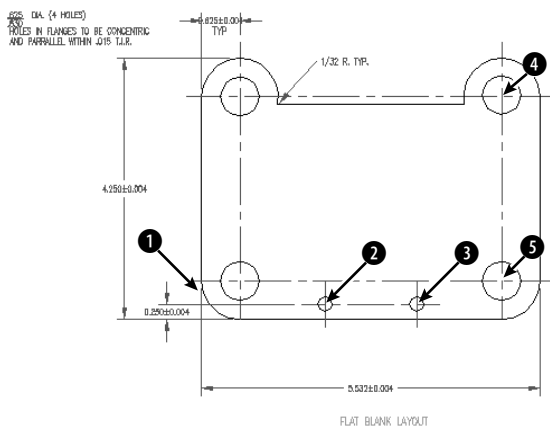

**Figure 15-34:** The tension arm needs some additional dimensions.
4. Choose Linear from the Dimension toolbar. At the Specify first extension line origin or <select object>: prompt, choose the endpoint at ❶ in Figure 15-34. (If necessary, press Tab until you see the endpoint tooltip.) At the Specify second
6. Choose Linear from the Dimension toolbar. At the Specify first extension line origin or <select object>: prompt, choose the intersection at ② in Figure 15-34. At the Specify second extension line origin: prompt, choose the intersection at ③. At the Specify dimension line location or [Mtext/Text/Angle/Horizontal/Vertical/Rotated]: prompt, pick the endpoint object snap at the right side of the previous dimension's dimension line in order to align the two dimensions.
10. Choose Linear from the Dimension toolbar. At the Specify first extension line origin or <select object>: prompt, choose the intersection at ④ in Figure 15-34. At the Specify second extension line origin: prompt, choose the intersection at ⑤. At the Specify dimension line location or [Mtext/Text/Angle/Horizontal/Vertical/Rotated]: prompt, pick an appropriate location to the right of the model.